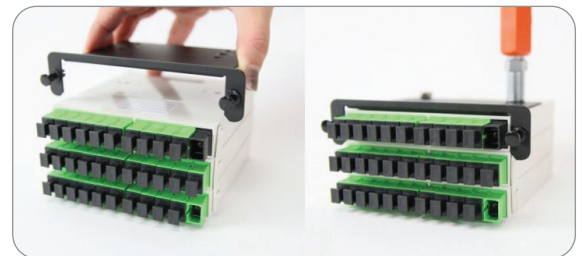

Figure 18
2. Using the provided hex-head screws, attach the LGX-118 mounting bracket to the bottom side of the IDEAA Splitter Module (Figure 18).